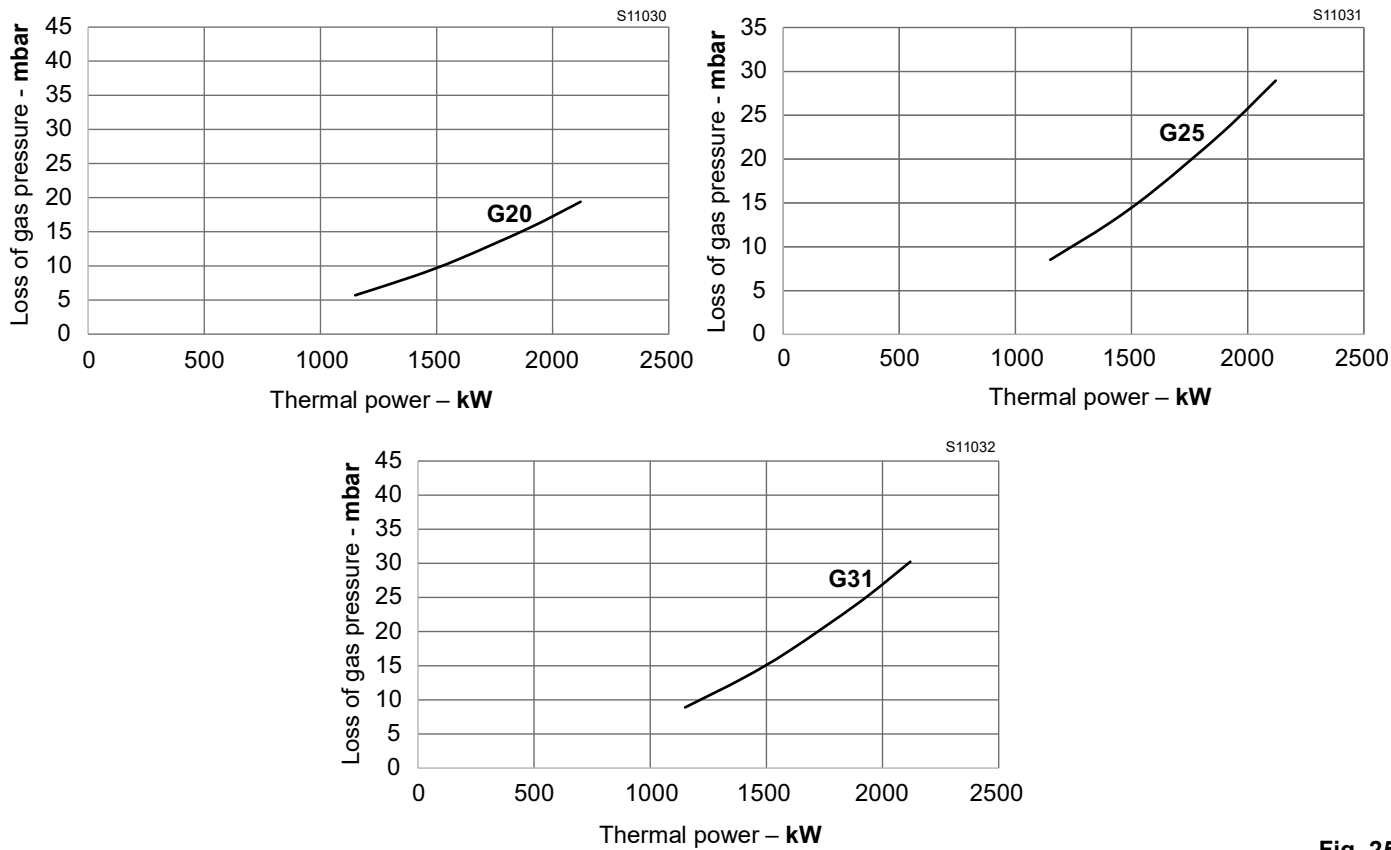
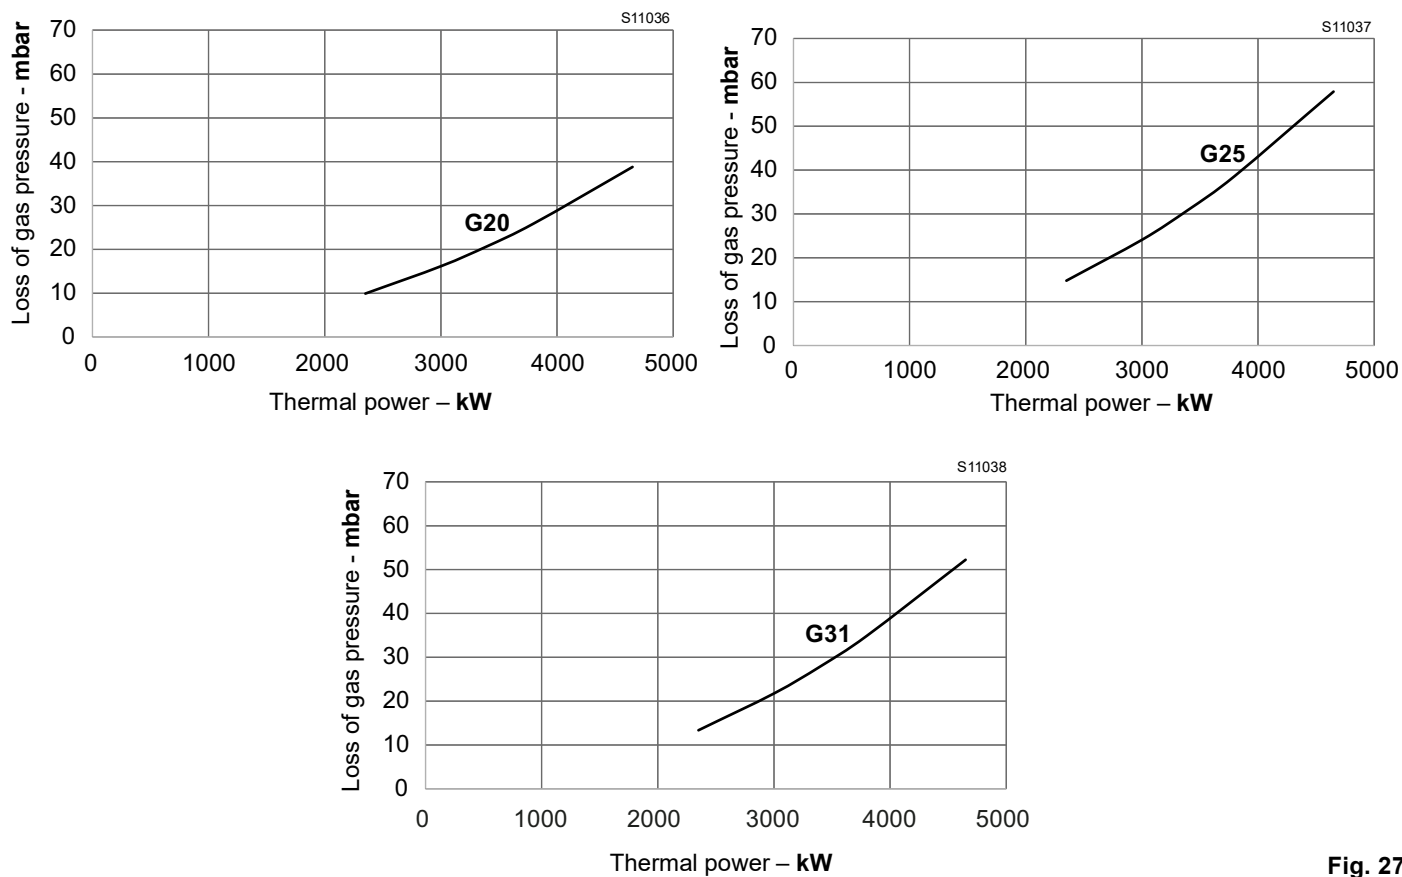

Fig. 25
Fig. 27
The values shown in Fig. 24, Fig. 25, Fig. 26 and Fig. 27 on page 25 refer to:
- Find, in the Fig. 24, Fig. 25, Fig. 26 and Fig. 27 on page 25 for the chosen burner, the pressure value closest to the result of the subtraction.
A pressure of 27.9 mbar, corresponds in the Fig. 24, Fig. 25, Fig. 26 and Fig. 27 on page 25 to an output of 2983 kW.
- find the nearest output value in the Fig. 24, Fig. 25, Fig. 26 and Fig. 27 on page 25 for the chosen burner.